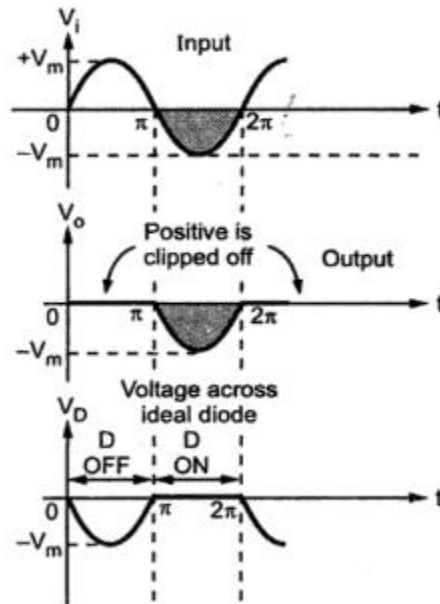

Fig. 1.48 Waveforms of series positive clipper
- The output waveforms for sinusoidal and triangular input waveforms are shown in the Fig. 1.48